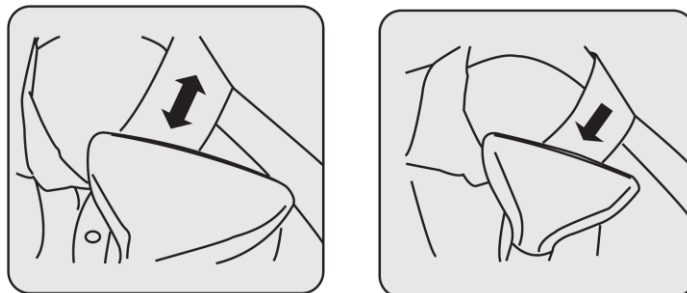

Fig.11
- When ironing the collar, please press downward a little bit harder. The nozzle should be pressed on the folding of the collar for a little longer and steam pressed back and forth and up and down. (See Fig.11)